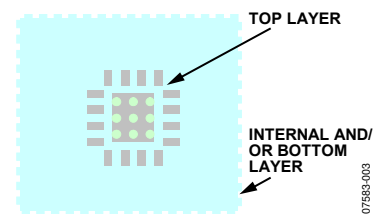

Figure 3. Heat Sink Layout
- Place nine vias onto the thermal pad of the amplifier. The outer diameter of the vias should be 0.5 mm and the inner diameter is 0.33 mm. If there are internal layers available in the PCB, allocate an area as large as possible as the ground planes and let these vias be connected to the planes (see Figure 3). If internal layer are available, allocate a certain area as a heat sink, and make sure to connect the vias conducting the heat to the internal layers.